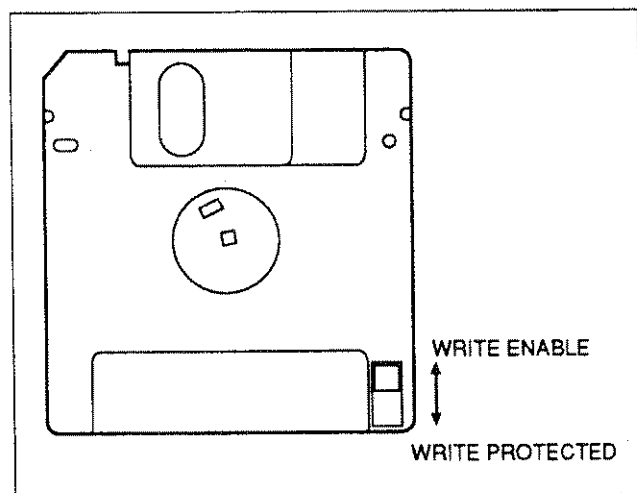

Figure 3-17. The floppy disk write-protect tab.
1. Obtain a blank 3.5-inch floppy disk (2DD type). If the floppy disk is write protected, move the write protect tab to the write-enable position (see Figure 3-17).